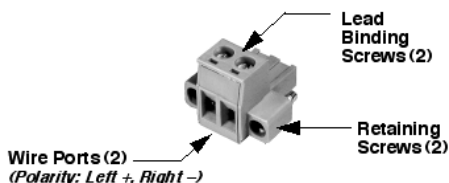

Figure 4. DC Power Connector
4. **Connect primary power.** Input power must be 10.0 to 30 Vdc and capable of providing at least 2.5 Amperes. A power connector with screw-terminals is provided (see Figure 4). Strip the wire leads to 6 mm (1/4 inch) and insert them into the wire ports. Be sure to observe proper polarity as shown below. Tighten the binding screws securely.